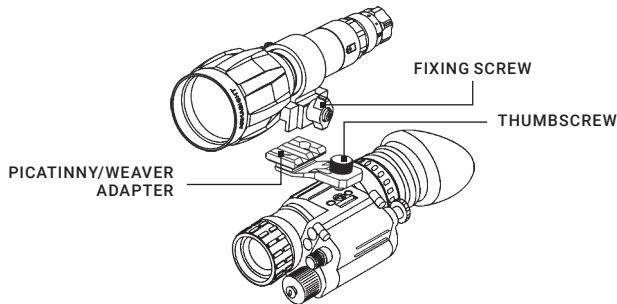

FIGURE 2-9. MOUNTING AN IR ILLUMINATOR
1. To install the Picatinny/Weaver Adapter into the monocular, align the adapter's thumbscrew to the hole and tighten it (Figure 2-9). Confirm that the alignment boss on the adapter fits into the groove on the monocular.